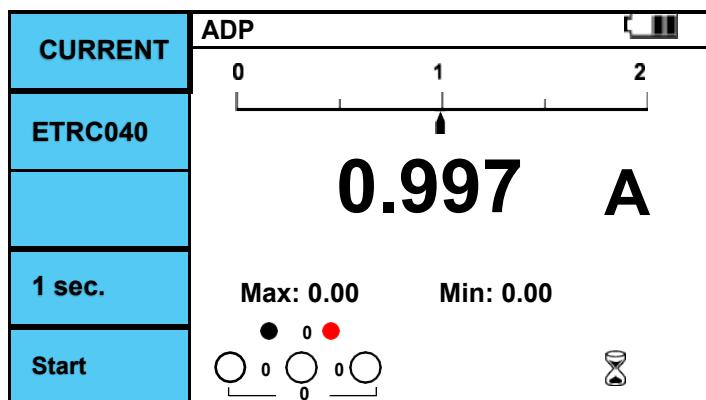

Figure 6.10.4 Adaptor/ Current Clamp Measuring.
- I. Fig. 6.10.4 Press the F5 button during Adaptor / Current Clamp measurement.